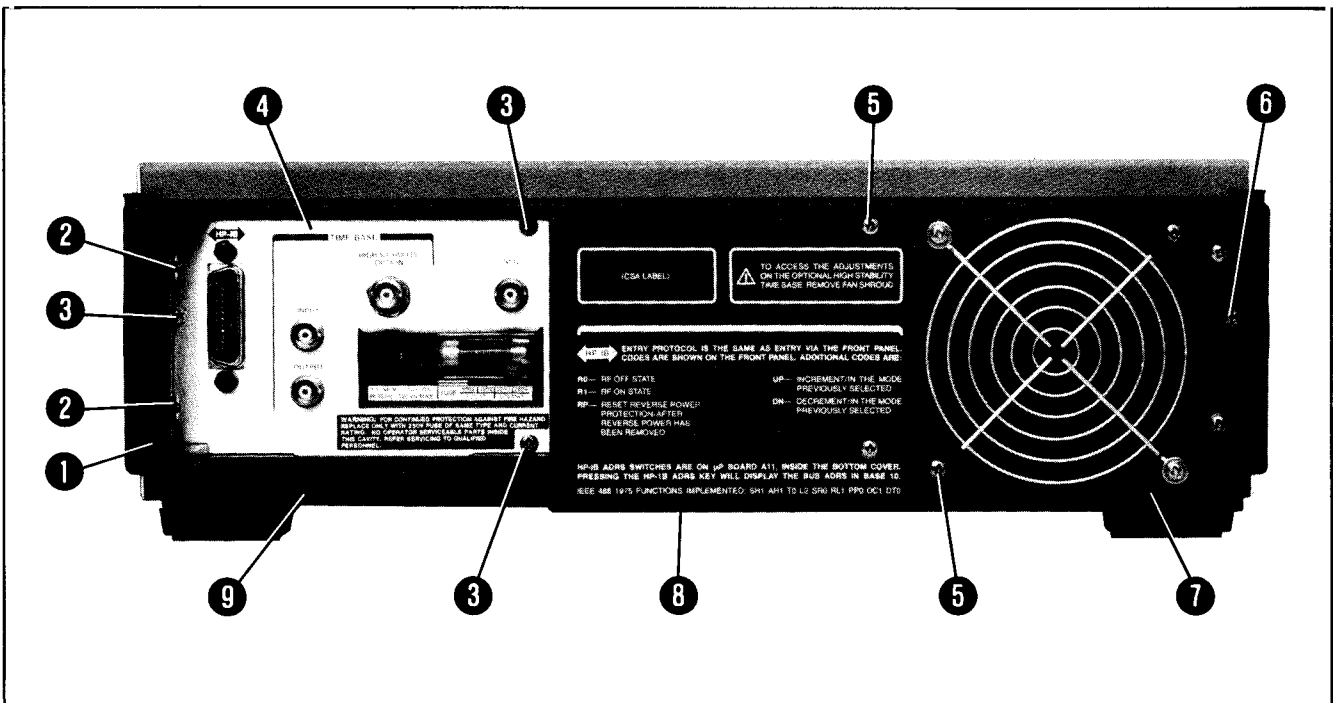

Figure 8-2. Rear-Panel and Fan Shroud Removal
Rear Panel Removal. Position the instrument so you are facing the rear panel as shown in Figure 8-2.
2. Position the instrument so you are facing the rear panel as shown in Figure 8-2.
3. Free the fan shroud (item 7) by removing three sets of attaching hardware. Two sets are No 2 Pozidriv screws, lockwashers and flatwashers (item 5). The other set is a No 2 Pozidriv screw, lockwasher and flatwasher (item 6).